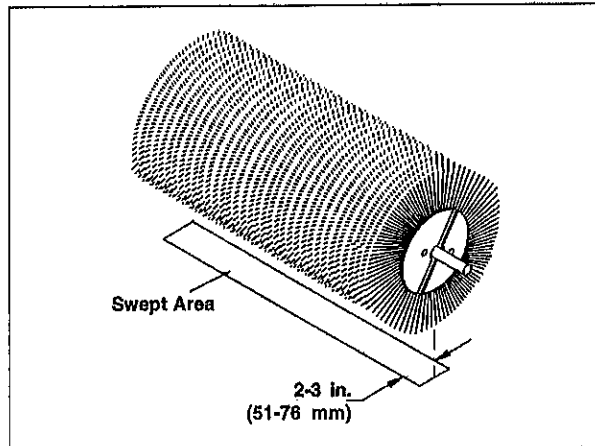

Figure 19
4. Raise the broom and back away; switch off the engine and remove the key. The brush pattern left in the dust should be 2-3 in. wide, running the entire length of the brush. (Compare the swept area with Figure 19.)